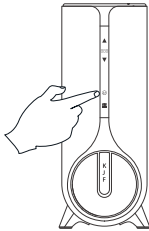

Figure 26
- (4) Hold the filter reset key on the system  for 5 seconds. When you hear the "beep" sound from the system, the filter has been successfully reset. The indicator lights of the front panel and faucet filter will turn blue (**Figure 26**).